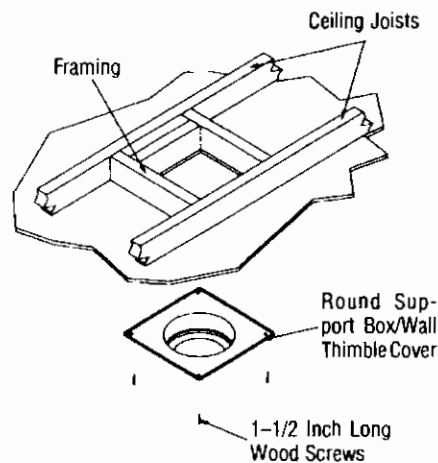
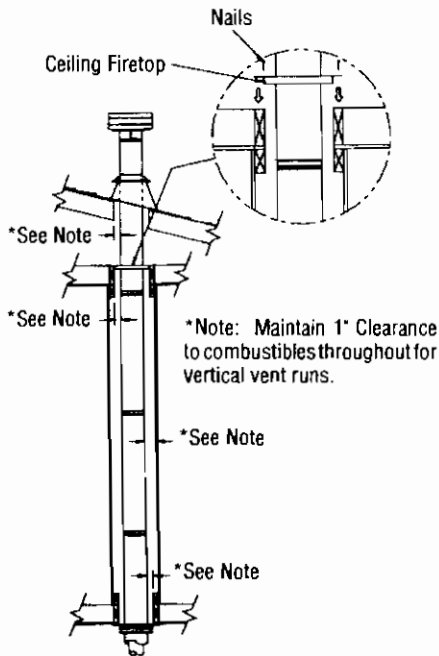

Figure 22
Figure 24
**B.** To install the Round Support Box/Wall Dura Vent Part No. 940, Thimble in a flat ceiling, cut a 10" square hole in the ceiling, centered on the hole drilled in Step A. Frame the hole as shown in Figure 22.
4. For multi-story vertical installations, a Ceiling Firestop (Dura Vent Part No. 963) is required at the second floor, and any subsequent floors (Figure 24). The opening should be framed to 10-inch x 10-inch inside dimensions, in the same manner as shown in Figure 22.
5. Vent runs should never include more than three (3) 90 degree Elbows or six (6) 45 degree Elbows.